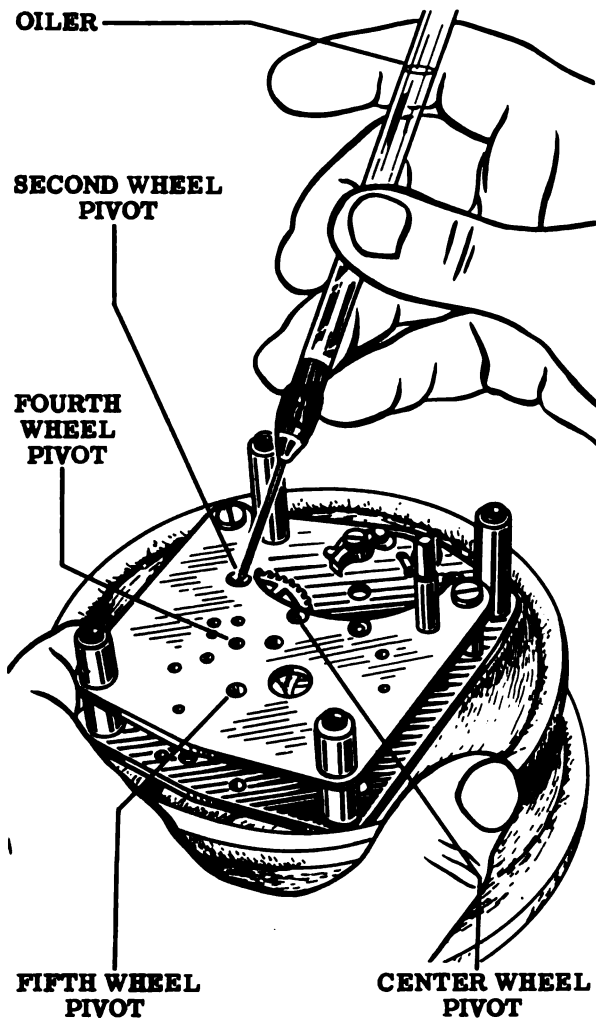

Figure 93—Boat and Deck Clock Movement
A. The train plate oiling points for Boat and Deck Clocks are shown in Fig. 93.